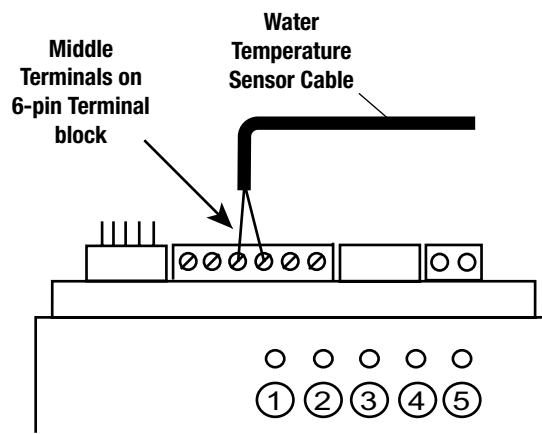

Figure 7-5. Connecting water temperature sensor cable wiring.
5. Run the sensor wires to the receiver and insert both wires into the middle terminals on the 6-pin terminal block at the top of the receiver. See Figure 7-5.